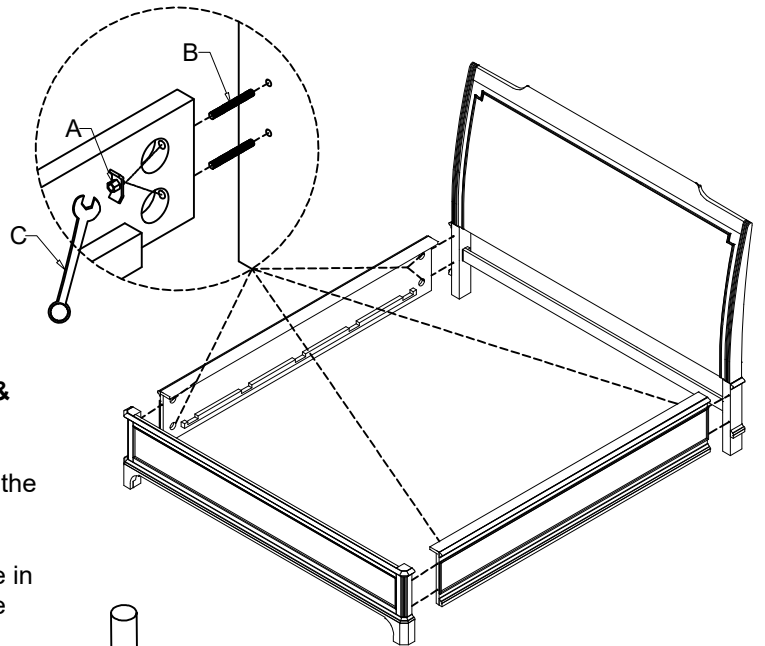

Figure 3
Lay assembled Slats with support legs on the cut-outs of bed rail's cleats. Secure Wood Screw (D) through pre-drilled holes on ends of Slats with a Philips head screw driver (not provided). (See Figure 3).